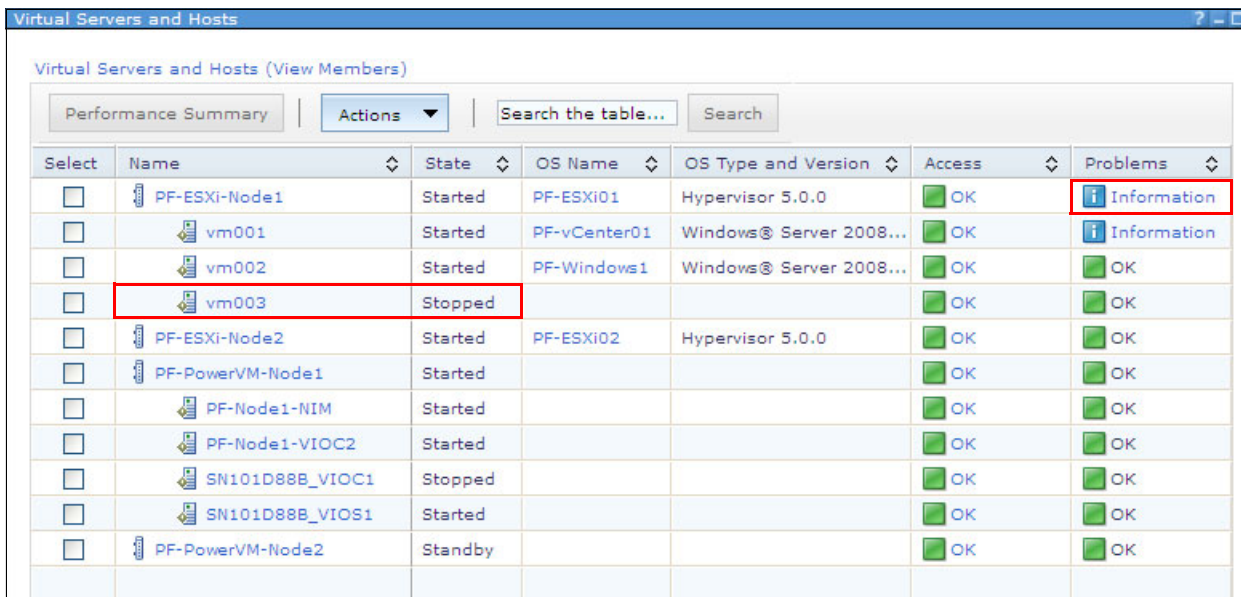

Figure 11-16 Virtual Servers and Hosts window
16. Return to the Virtual Servers and Hosts window to see the newly created virtual server vm003. It is in the Stopped state, as shown in Figure 11-16. The virtual machine was created on the ESXi host PF-ESXi-Node1, which is managed by the vCenter server PF-vCenter01. Click the **Information** link on the PF-ESXi-Node1 row to open the list of events for that ESXi server.